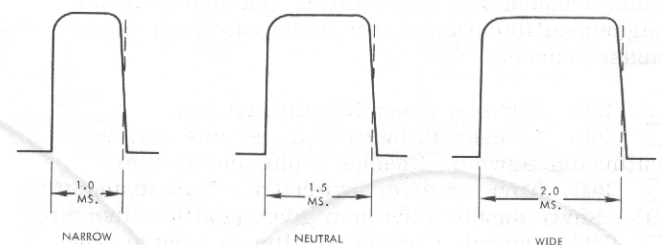

Figure 32. Channel Waveform Adjustments
- 218. Connect scope probe to loop ⑦. Set sweep time to 0.5 msec/cm. Adjust scope controls for stable picture. Compare result with waveforms shown on schematic, figure 23, and those on figure 32.
- 219. Adjustments will now be made to obtain waveform timing shown in figure 32. With Channel 1 (aileron) controls, including front trim, in neutral, pulse width should be 1.5 milliseconds. If not, reposition trim lever ① by hand slightly left or right until this width is obtained on scope. Make sure to hold front trim control at neutral while adjusting trim lever ①.
- 222. If the difference in pulse width between steps 220 and 221 exceeds one millisecond total, rotate trim pot ② clockwise a few degrees until total swing with full control movement is about one millisecond. Rotate trim pot ② counterclockwise if pulse width swing is less than one millisecond.
- 224. Center Channel 1 front controls, then readjust trim lever ① for 1.5 millisecond neutral pulse.
- 225. Check Channel 1 pulse again with controls in each extreme. Continue adjustment of trim pot ② until total pulse swing is one millisecond, and trim lever ① until correct pulse travel of one to two milliseconds is obtained.
- 226. Connect scope probe to loop ⑩. In same manner as above, adjust trim lever ③ and trim pot ④ until Channel 2 calibration is obtained.
- 227. On 2-stick transmitter, similarly align Channel 3 by using loop ⑬, lever ⑤ and trim pot